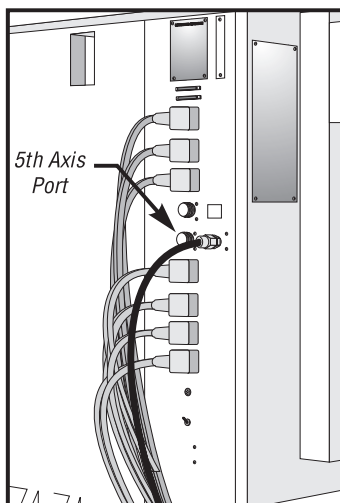

Figure 11.16 Fifth Axis port on the side of the VMC control cabinet
2. **Important!** Before installing the APC, ensure the VMC has been installed and leveled. Also make sure the APC jumper is installed in the "5th Axis" port on the side of the VMC control cabinet (see Figure 11.16).
20. Power OFF the VMC. **WARNING! This will cause the automatic door to fall. Keep hands clear.** Remove the jumper from the Fifth Axis (B) port on the side of the VMC control cabinet (see Figure 11.16), and insert the APC amphenol connector into this port. Tie-wrap the cable to the door switch cable and the air hoses at the rear of the VMC.